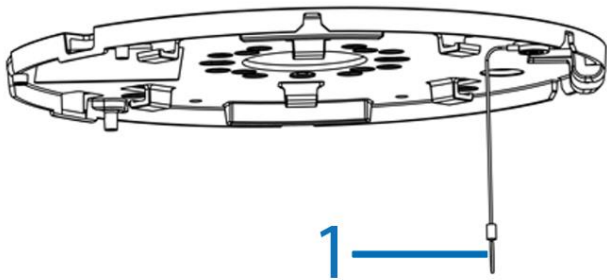
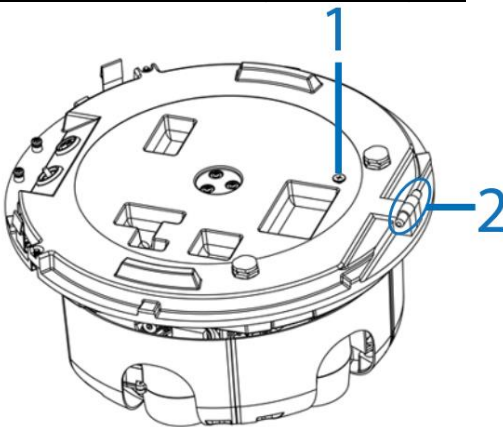
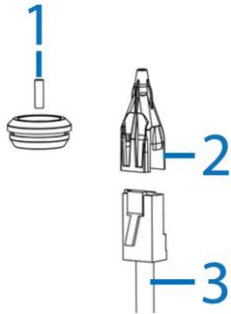
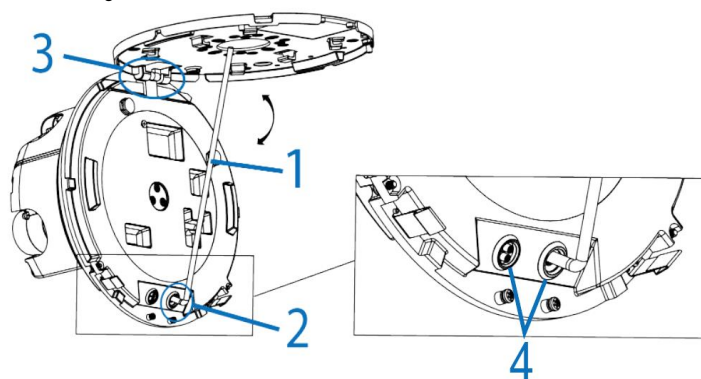

Figure 5
Figure 6
Figure 7
Figure 8
7. Hold the camera lens module up to the mounting plate and insert the 'loop' on the safety lanyard (1) (Figure 5) that is attached to the mounting plate to the screw (1) (Figure 6) on the camera lens module.
8. Insert the 'hinge pins' (2) (Figure 6) on the camera module lens into the 'hinge knuckle' on the mounting plate. '3' in Figure 8 identifies how the camera lens module and mounting plate attach together.
10. Insert the RJ-45 cable (3) (Figure 7) into the insert tool (2) (Figure 7) remove the rubber grommet (2) (Figure 8) from the camera lens module.
11. Pierce the rubber grommet (1) (Figure 7) by passing the insert tool and cable through the center of the rubber grommet.
12. Pass the insert tool and cable (1) (Figure 8) through the rubber grommet hole (2) (Figure 8) on the camera lens module.
WARNING: Ensure that both rubber grommets (4) (Figure 8) are securely inserted into the camera lens module before operation.
- Ensure that both rubber grommets (4) (Figure 8) are securely inserted into the camera lens module before operation.